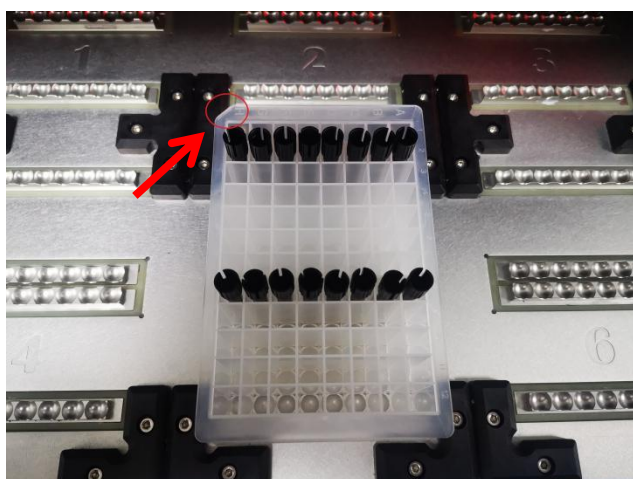
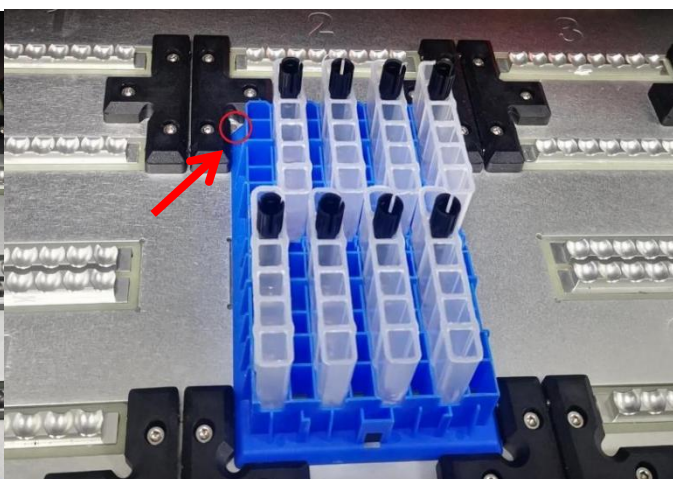

Figure 17. 96-deep well plate
Figure 18. Put the single kit docking into the instrument
**⚠️ Note:** The user should ensure the marked notch of the plate of the 96-deep well plate and 6 strip tube are on the left, which is shown in Figure 17 and Figure 18.